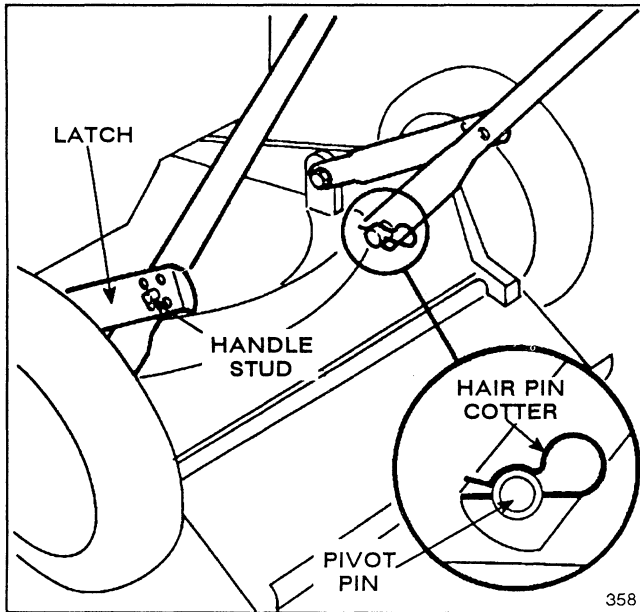

Figure 1
1. LOWER HANDLES (Fig. 1)—Push ends of handle together and install on pivot pins. Move handle and latches backward until handle studs snap into center hole. Push hair pin cotter through holes in pivot pins.